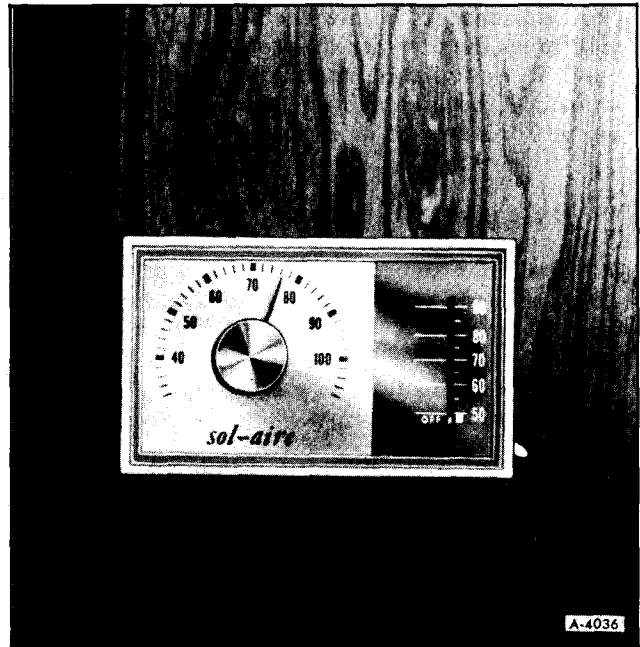

Figure 7 —Furnace Thermostat
5. Turn thermostat (figure 7) to a temperature above room temperature. Furnace should start.
1. To shut off furnace set thermostat to "OFF" (See figure 7).